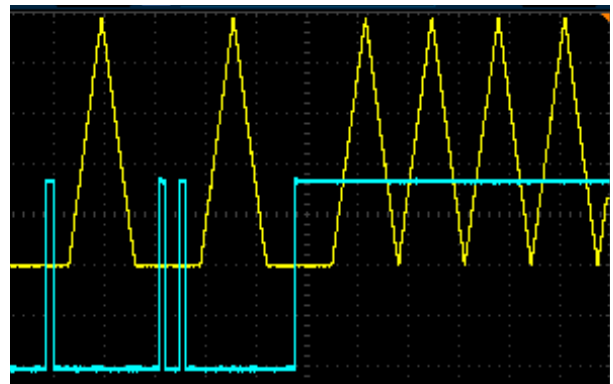

Figure 4: Quantized QNT trigger
2. **QNT jack (Quantized)** — Apply a trigger/gate to this jack to cause an envelope to start **on the next ping clock**. The PEG will wait for the next ping clock and then start the envelope. Holding a gate high on this jack causes the envelope to repeat. See Figure 4. The rising edge of a trigger on this jack will cause the envelope to re-sync if an Async pulse has previously been applied. The envelope will complete at least one entire cycle even if the QNT jack goes low mid-way through the envelope.